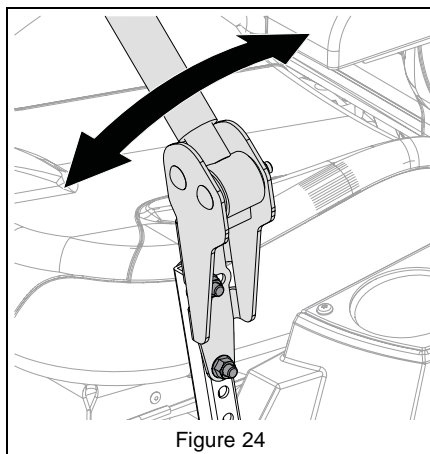

Figure 24
See Figure 24.
8. Loosen mounting hardware, align levers and tighten hardware. See Figure 24.